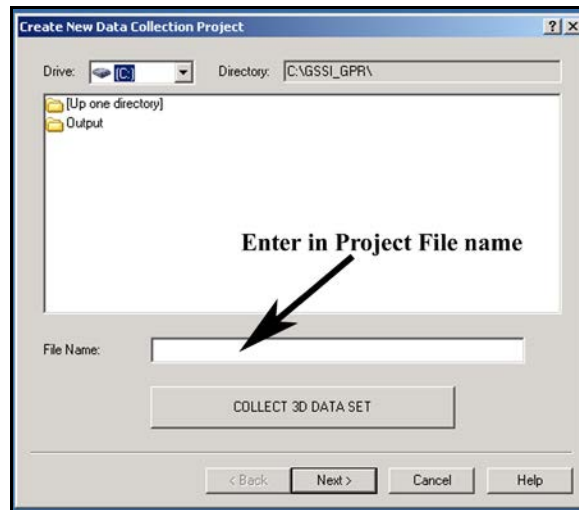

Figure 21: Project File Name box.
- 1** Create a new collection project by going to File > New or clicking the New Project button  on the collection controls bar. This will open a window with the heading Create New Data Collection Project (Figure 21).